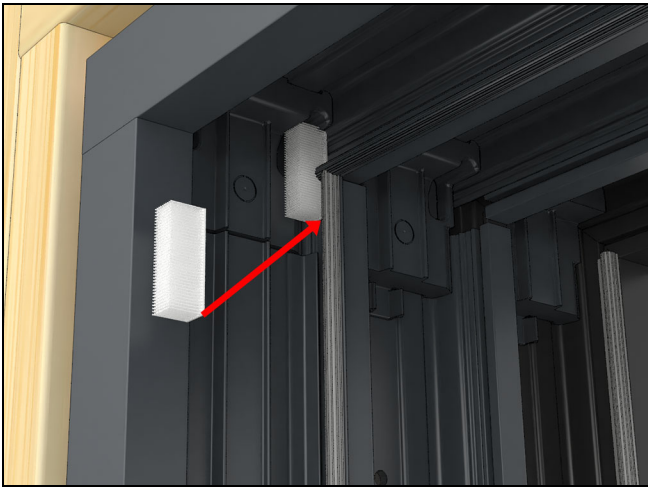

Figure 78
13. On uni-directional locking jambs, apply a dust block at the top of the interior track behind the bulb weather strip. Position the block so it is centered between the joint on the head jamb and jamb weather strips. See Figure 78.